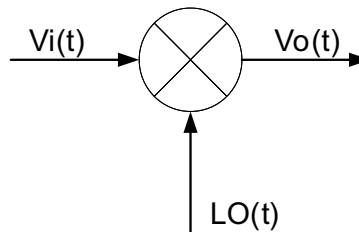

Figure 65. Block Diagram of Mixer Operation
The CW mixer in the AFE5808A device is passive and switch based; passive mixer adds less noise than active mixers. The CW mixer achieves good performance at low power. Figure 65 and Equation 1 describe the principles of mixer operation, where $V_i(t)$, $V_o(t)$, and $LO(t)$ are input, output and local oscillator (LO) signals for a mixer respectively. The $LO(t)$ is square-wave based and includes odd harmonic components as shown in Equation 1.